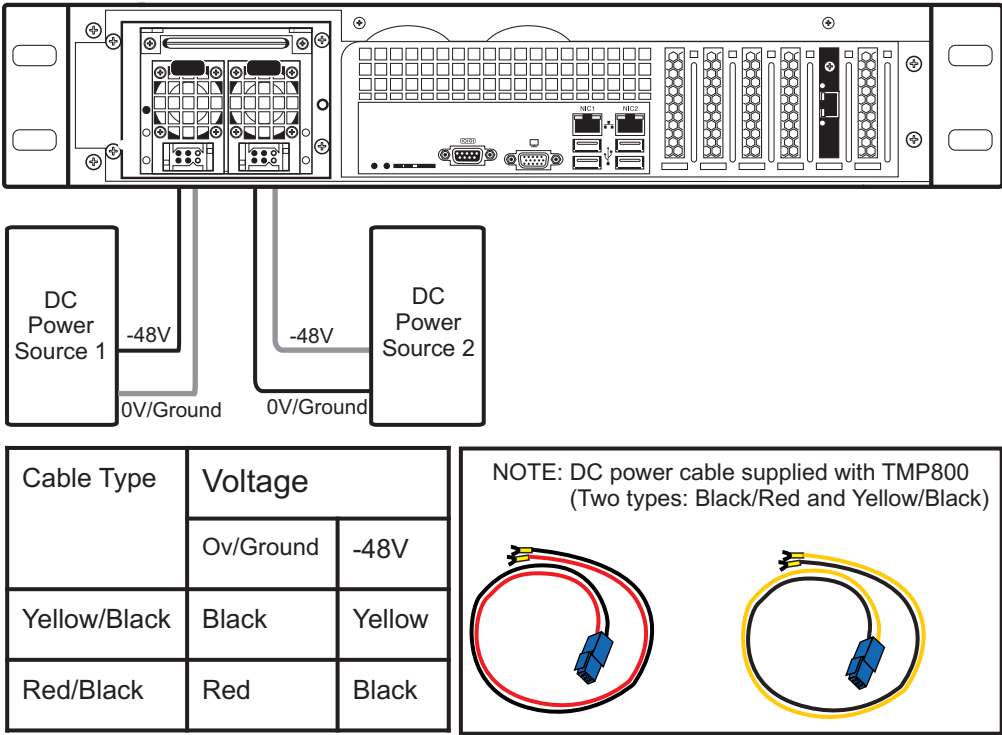

Figure 2.21 TMP800-CTRL DC Power Connections
1. Connect the first DC power connector of the TMP800-CTRL to DC power source one. See figure 2.21 on page 25.